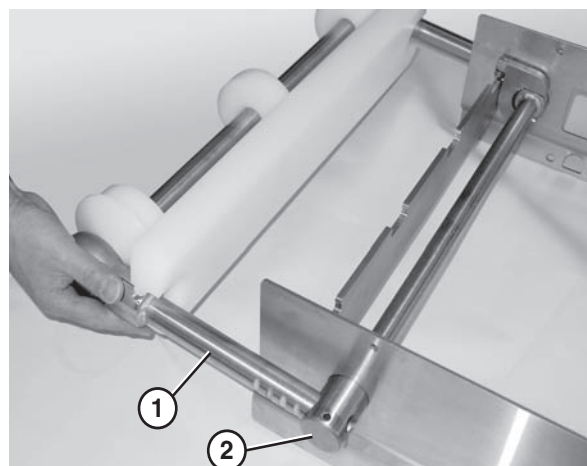

Figure 27
3. Slide the bearing shafts (**Figure 27, item 1**) into the holes in the tip up shaft (**Figure 27, item 2**).